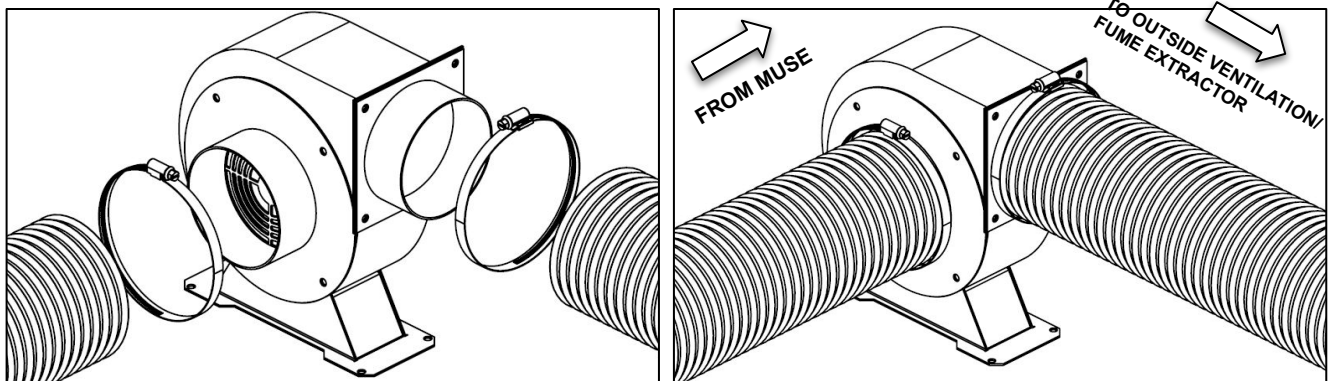

Fig. 4
3. **Attach Exhaust Fan:** Secure the free end of the ducting to the exhaust fan. Repeat the ducting and clamping process in the other side of the exhaust fan and plug in the fan into the bottom power plug marked "exhaust" on the back of your Muse 3D machine. (see Fig. 4).